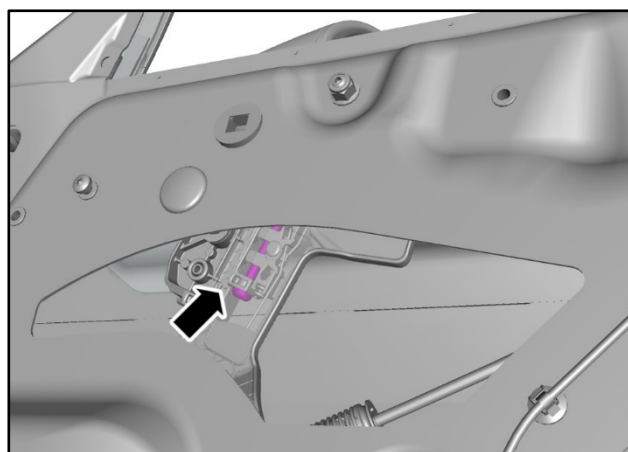

Figure 5
14. Fully tighten the vertical adjustment screw for the front regulator cursor (refer to Figure 5).